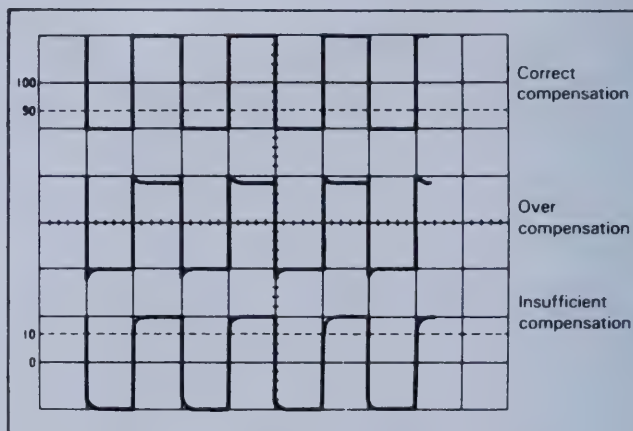

Fig. 22. Probe Compensation Adjustment.
4. Adjust compensation trimmer on probe for optimum square wave (minimum overshoot, rounding off, and tilt). Refer to Fig. 22.